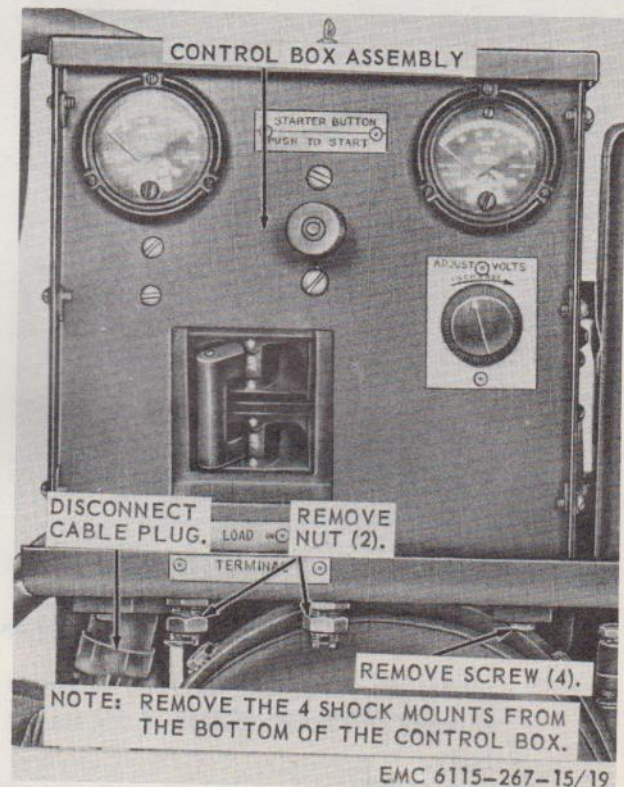

Figure 19. Control box assembly—removal and installation.
- (1) Stop the generator set (par. 16).
- (2) Remove the defective brush as described in *a* above.
- (3) Sand or file to proper size a brush from another piece of equipment.
- (4) Install the substitute brush as described in *e* above.
- (5) Seat the substitute brush as described in *c* above.
a. Removal. Refer to figure 19 and remove the control box as an assembly from the generator set.